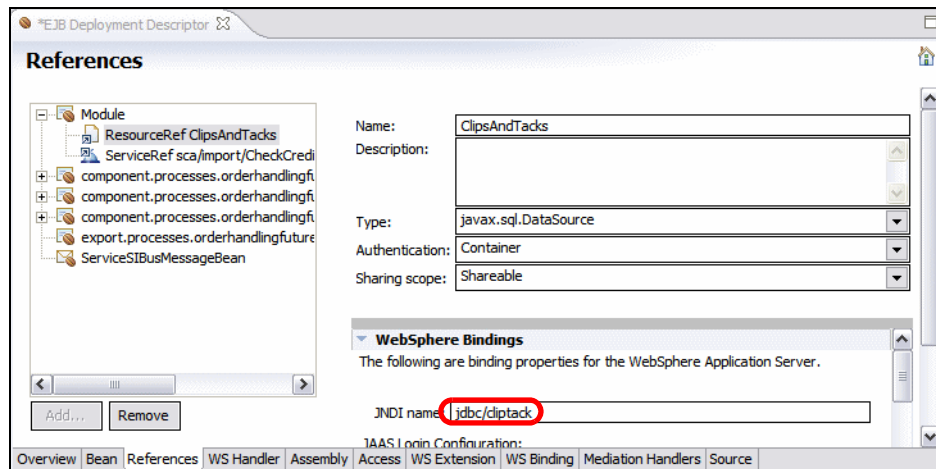

Figure 10-85 EJB Deployment Descriptor: Data source reference
- In the WebSphere Bindings section, specify the JNDI name for the data source (Figure 10-85):